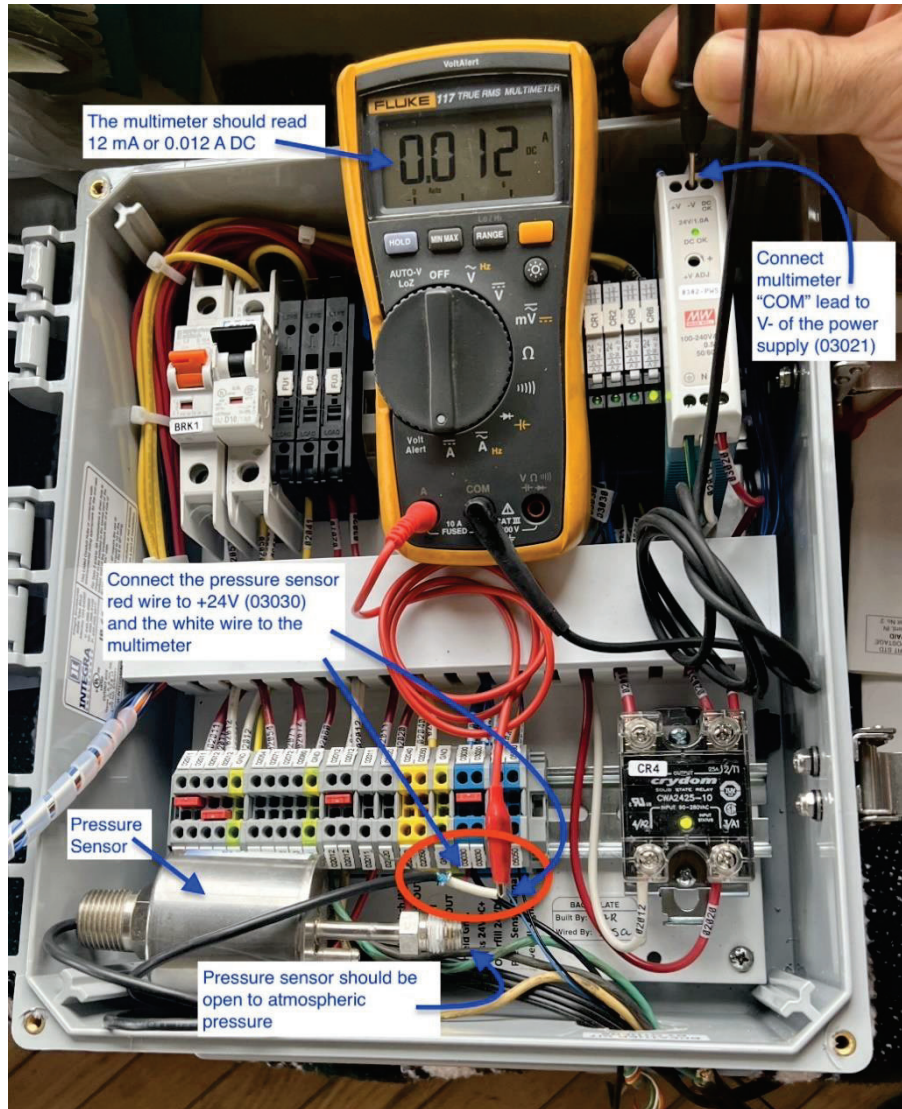

Figure 8-15: Example of Fluke multimeter and Pressure Sensor connection for test
- NOTE: The Pressure Sensor test procedure can be done by removing the Pressure Sensor from the GREEN MACHINE and testing the Pressure Sensor at the Control Panel. **See Figure 8-15.**
See Figure 8-15